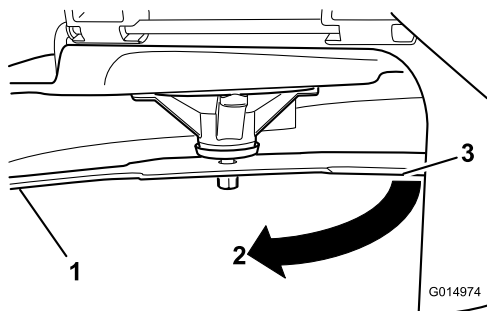

Figure 66
3. Second measured distance between blade and surface (B)
4. Rotate the same blade 180 degrees so that the opposing cutting edge is now in the same position (Figure 66).